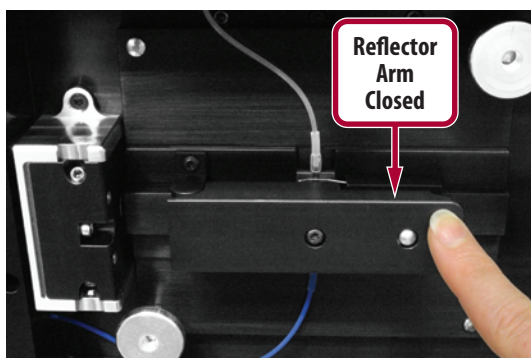

Figure 1. Ensure a flow cell is installed and the reflector arm is fully closed.
1. Ensure that a flow cell is properly installed on the instrument **and that the reflector arm is fully closed (Figure 1)**. Turn on the lamp. Vertical alignment at this point is not critical, it just needs to be close enough to see the upcoming bead pack.